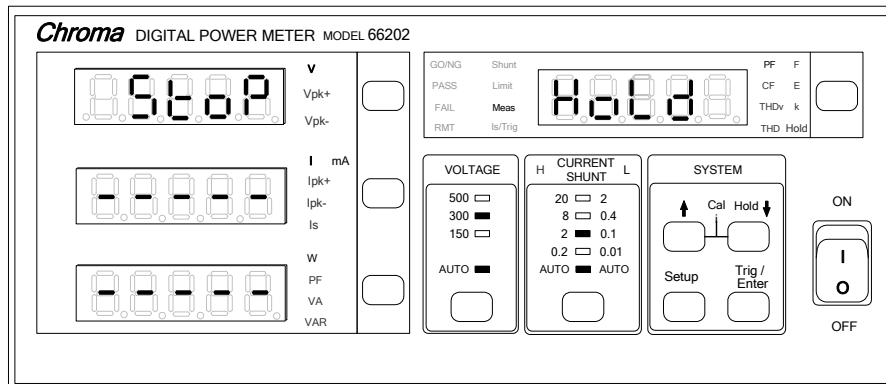
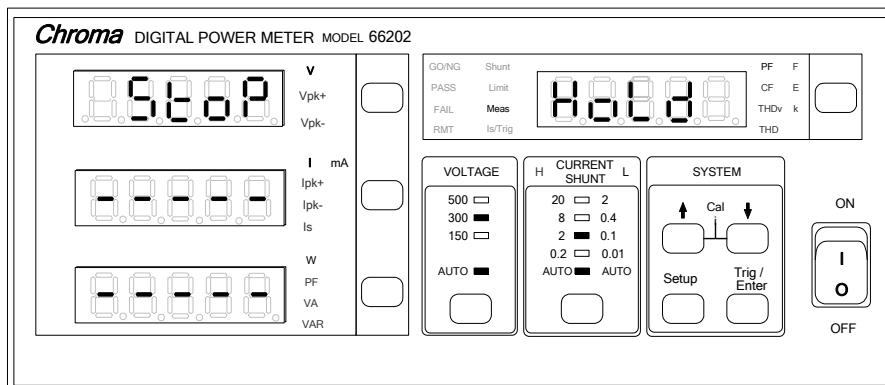

Figure 4-25 Setting Stop in HOLD
Figure 4-28 Old Setting Panel of Stop for HOLD
- Use **↑**, **↓** to select Stop, Max or Min as shown in Figure 4-25, 4-26 and 4-27. Press **Enter/Trig** to save the settings and go to the settings of Hold time (there is no time settings if Stop is selected.)
The HOLD function in 66200 Series Power Meter is only supported when the firmware version is ≥ 1.20 . HOLD is a new function and since the display panel has old and new versions, the old version as Figure 4-28 shows has no HOLD indicator while the new version has it as shown in Figure 4-25. The HOLD is located at **Hold** key.